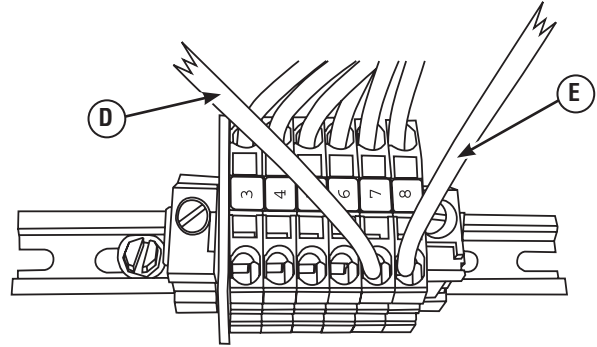

Figure 5 - Eaton Terminal Block 7 & 8 Connections
3. Connect bare wire end of Wire Assembly D (207022DGS) to transfer switch terminal block position 7 (Figure 5, D) and other end to adapter installed on contactor terminal N1.
4. Connect bare wire end of Wire Assembly E (207022EGS) to transfer switch terminal block position 8 (Figure 5, E) and other end to fuse holder (FH1).